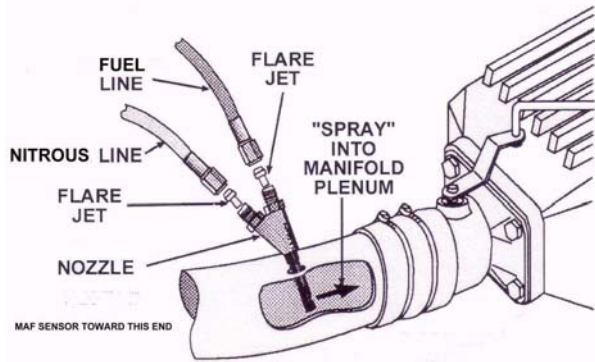

FIG. 5
- 1) Select the proper nitrous and fuel jets (15). Place the desired jets into the nozzles, making sure that the jets are inserted into the correct locations, as marked in figure 5 Check the jet cart for correct jet sizes.
- 2) Connect and tighten the blue fitting side of the 2 ft. 3AN hoses (10) to the nozzle as shown in figure 5
- 3) Connect and tighten the red fitting side of the 2 ft. 3AN hoses (10) to the nozzle as shown in figure 5